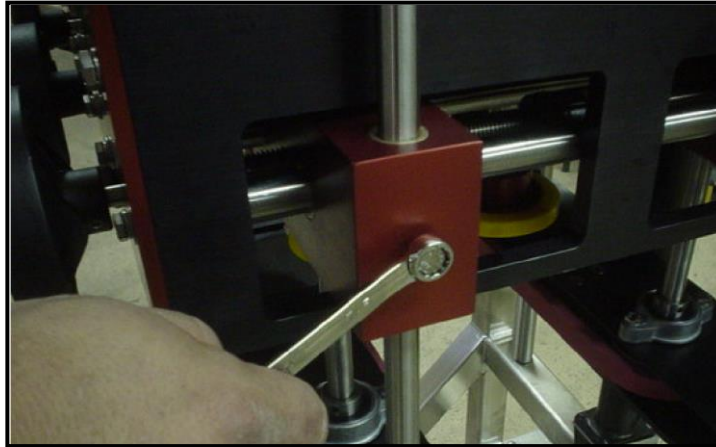

Figure 16. GRIPPER BELT HEIGHT CONTROL.
- 5.** The gripper belts function together to contact and support the stable part of the bottles passing between them. Make sure the gripper belts are set to the proper height and width to contact and support the stable part of the bottle. Refer to Figures 16, 17, and 18.
- 6a.** Gripper belts can be raised or lowered Independently by hand by loosening the bolts on the front and rear guide blocks. Refer to Figure 16.